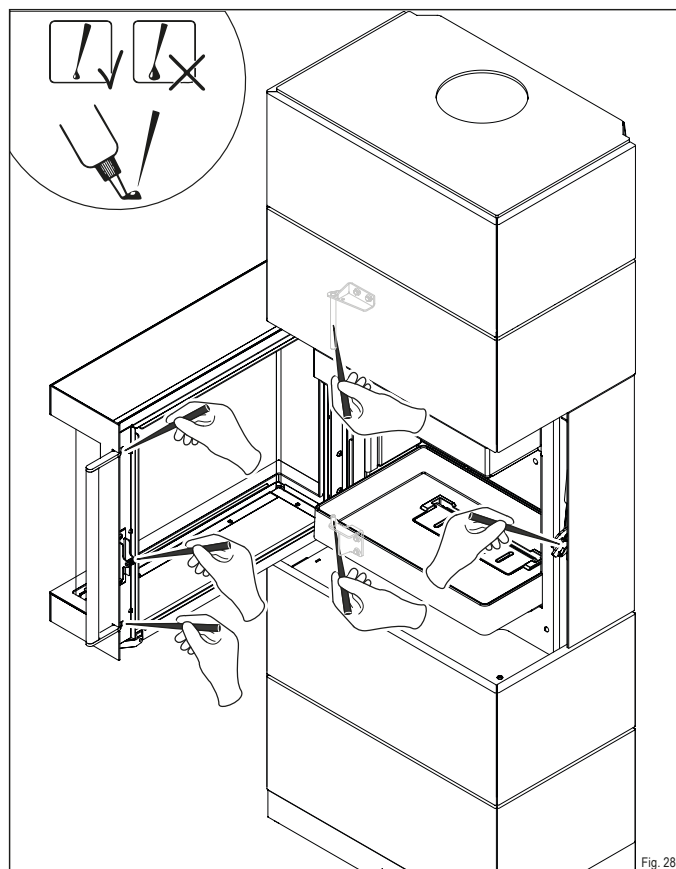

Fig. 28
- Lubricate the points with the speciality grease from the starter kit (Fig. 28).